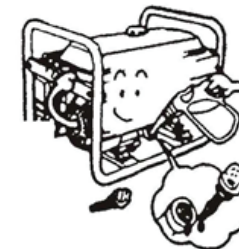

Figure 13
- Re-screw in the oil filler cover/dipstick and fasten it securely (Figure 13)